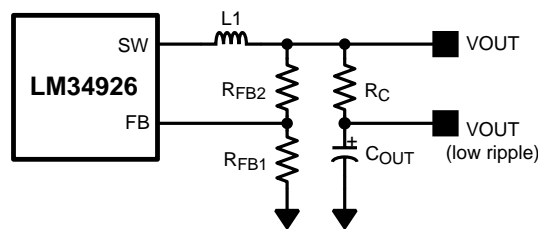

Figure 9. Low Ripple Output Configuration
This regulator regulates the output voltage based on ripple voltage at the feedback input, requiring a minimum amount of ESR for the output capacitor ( $C_{OUT}$ ). A minimum of 25 mV of ripple voltage at the feedback pin (FB) is required for the LM34926 device. In cases where the capacitor ESR is too small, additional series resistance may be required ( $R_C$  in Figure 9).
For applications where lower output voltage ripple is required the output can be taken directly from a low ESR output capacitor, as shown in Figure 9. However,  $R_C$  slightly degrades the load regulation.